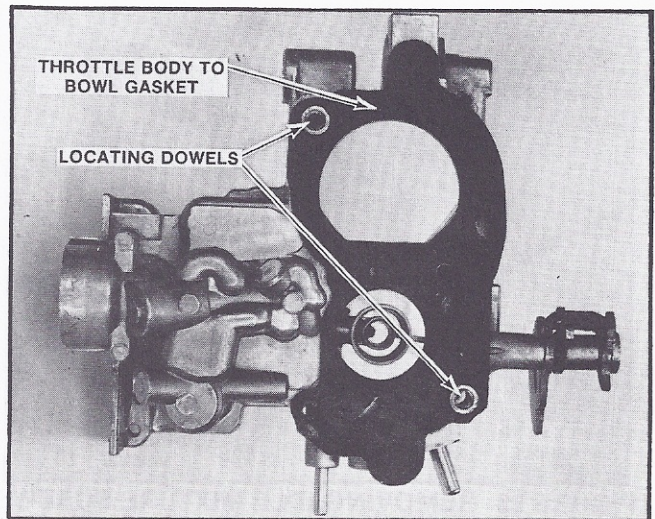

FIGURE 35 THROTTLE BODY TO BOWL INSULATOR GASKET
1. Install new throttle body to bowl insulator gasket over two locating dowels on bowl (Figure 35).